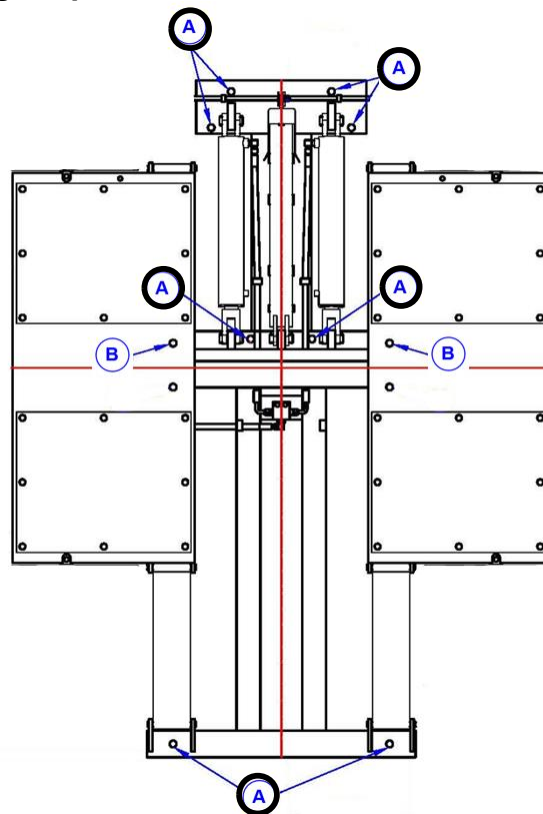

Fig. 3
- 2) Using the pad lift base structure holes as a guide, drill holes for the **8ea (A) 3/4"** anchor bolt hole locations first, using a rotary hammer drill and 19mm (3/4") Masonry Drill Bit. **Fig. 3**.